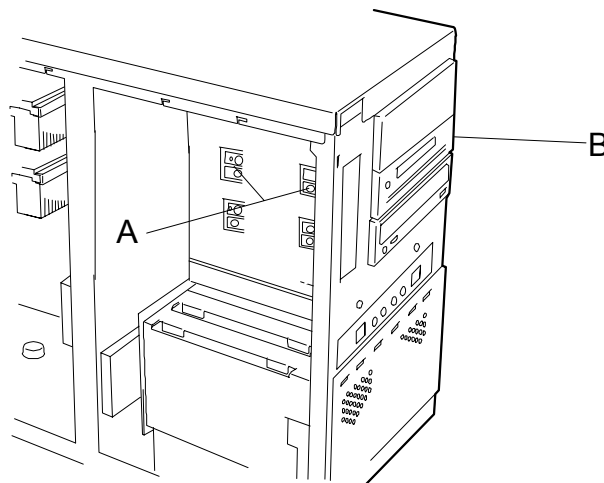

Figure 4-32. Removing a Removable Media Device
6. Remove the screws securing the device to the removable media device bay. See Figure 4-32, A, B.